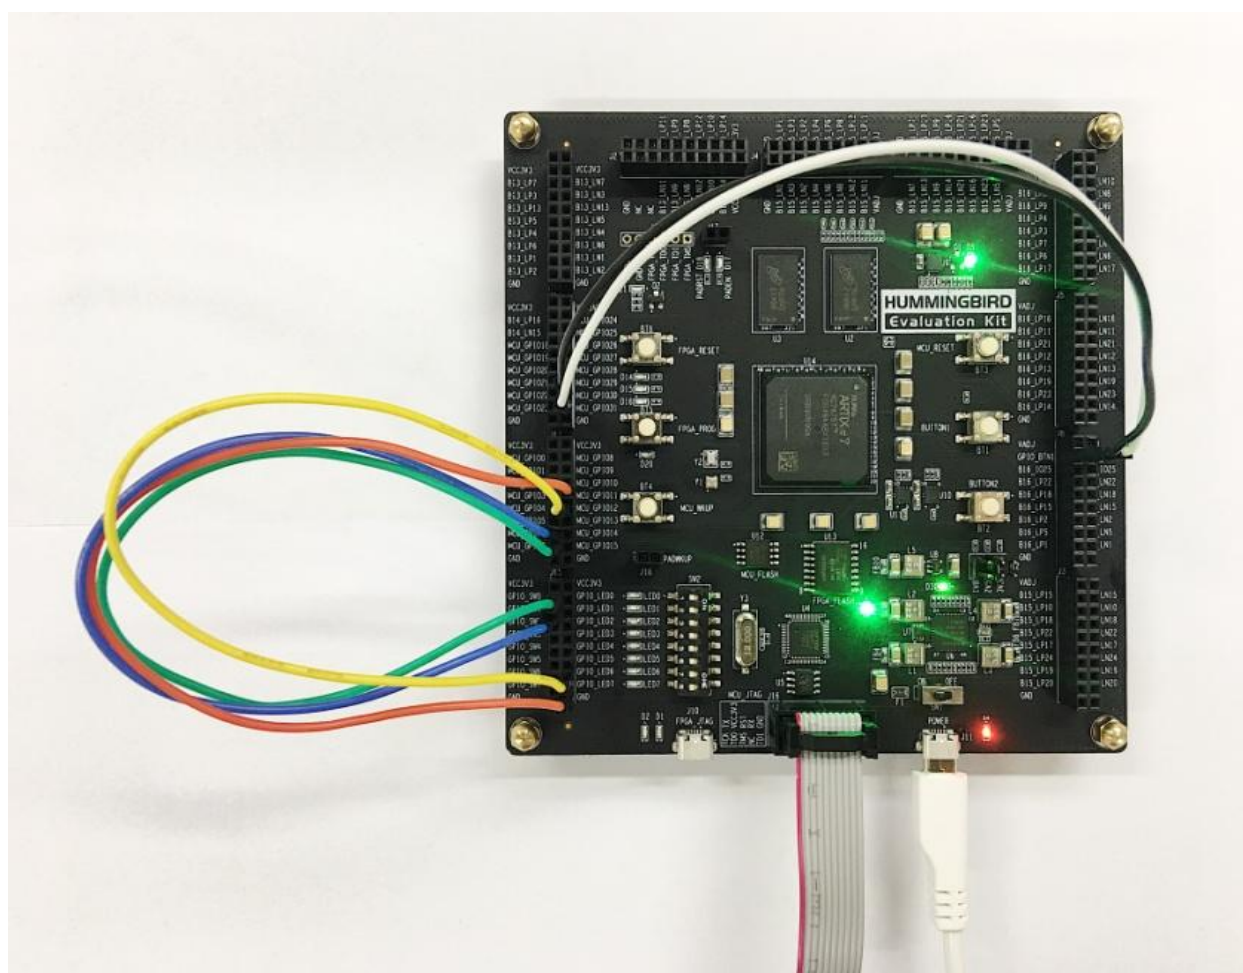

Figure 3-3 Example of using other board resource to control SoC pins
- As in the example of Figure 3-3, SW0 and SW1 are connected to MCU_GPIO6 and MCU_GPIO7 respectively.
- As in the example of Figure 3-3, MCU_GPIO6 and MCU_GPIO7 are connected to
- As in the example of Figure 3-3, Button 1 and Button 2 are connected to MCU_GPIO30 and MCU_GPIO31 respectively.